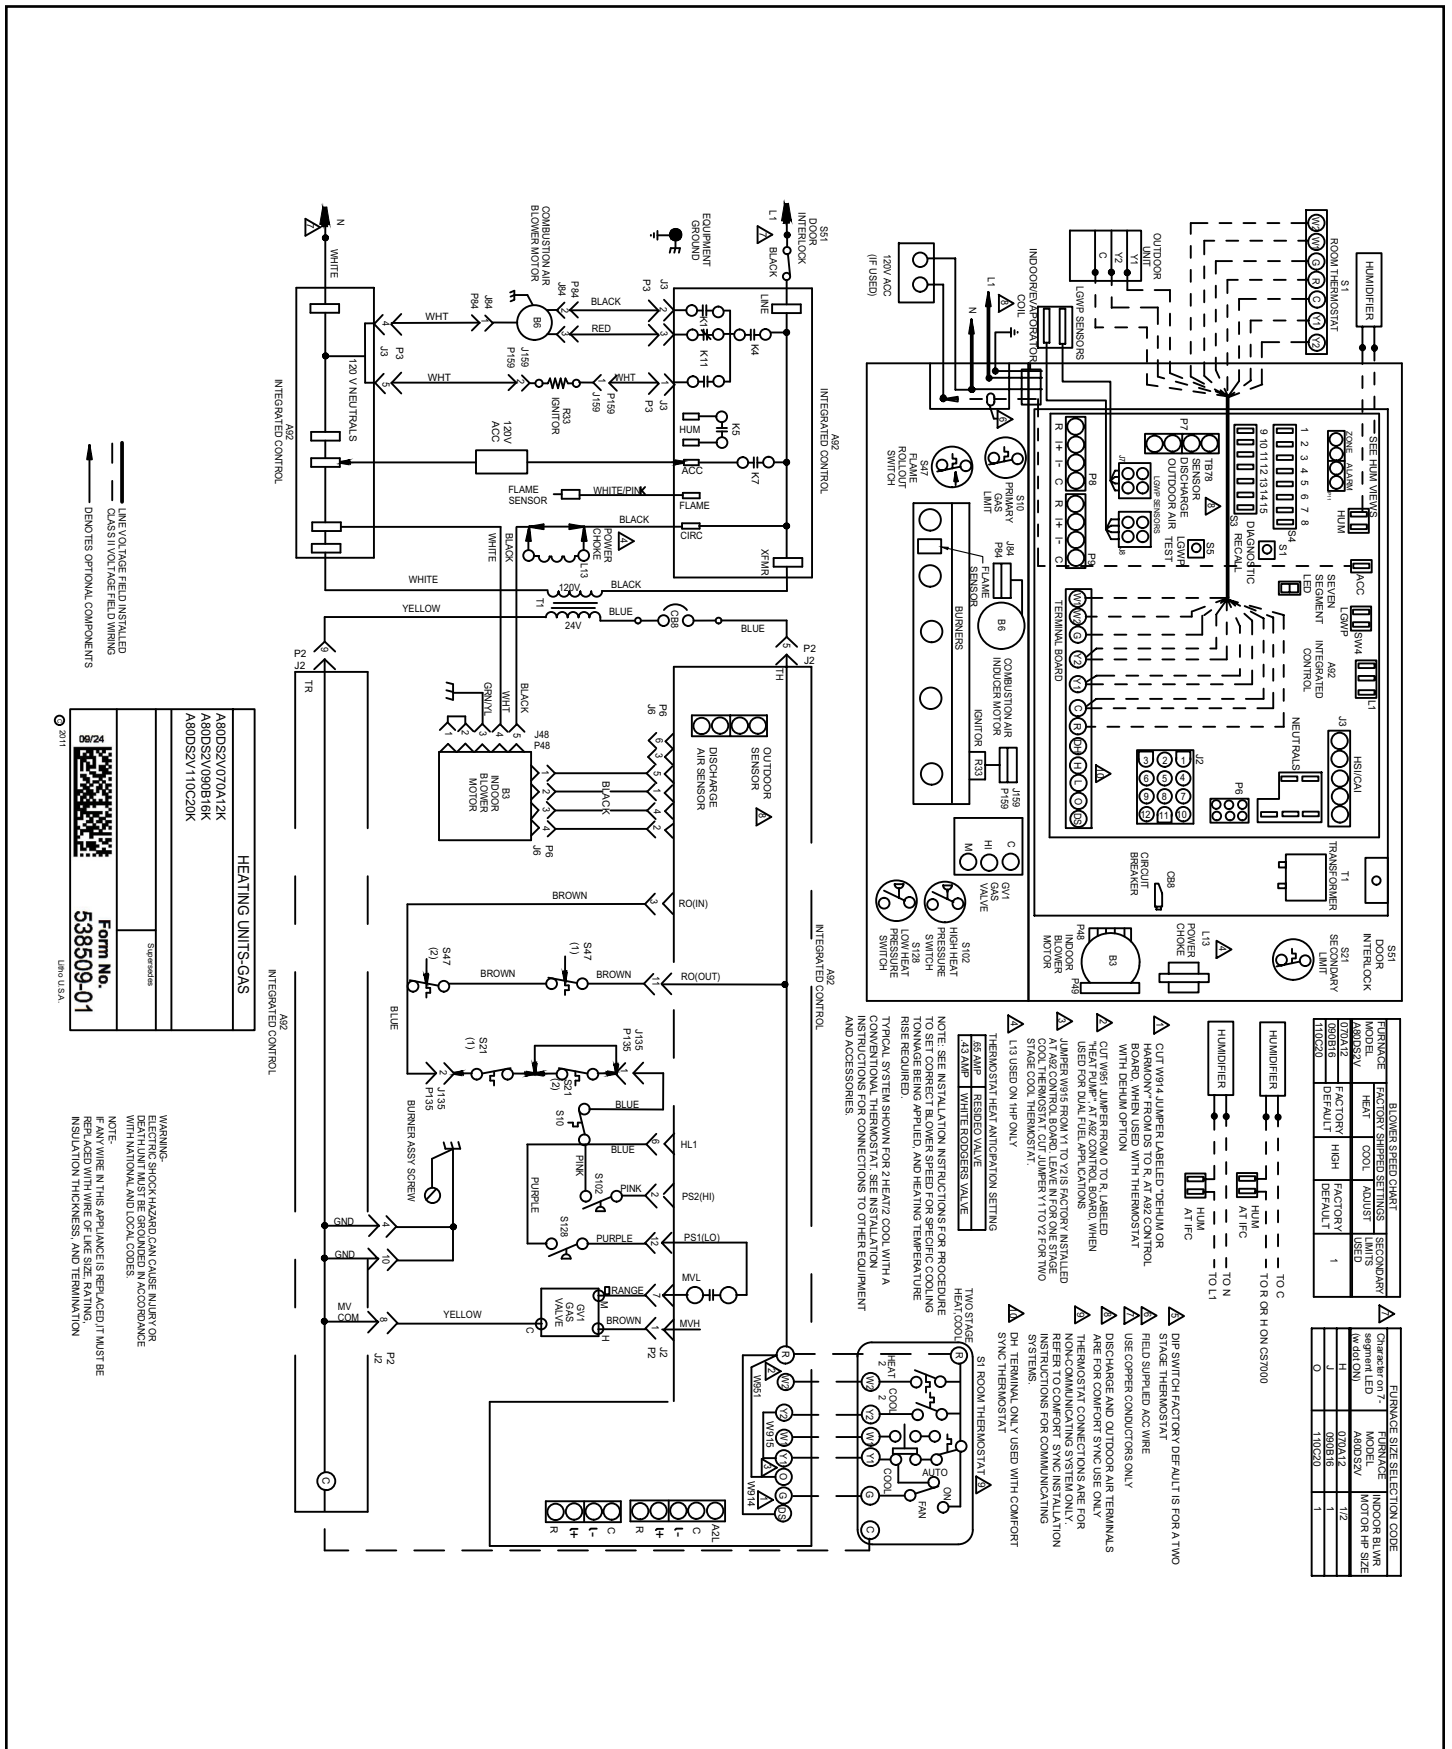

Figure 31. A80DS2VK Schematic Wiring Diagram
5. Complete the wiring connections to the equipment. Use the provided unit wiring diagram and the field wiring diagram shown in Figure 31. Use 18 gauge wire or larger that is suitable for Class II rating for thermostat connections.